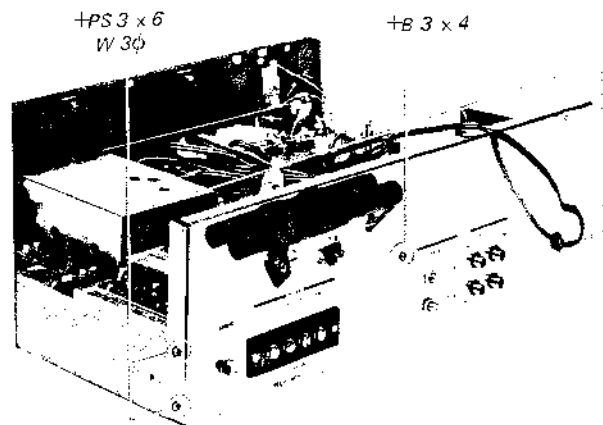

Fig. 2-5 Rear panel removal
- Remove the two screws (+PS 3 X 6) at each side of the rear panel and one screw (+B 3 X 4) as shown in Fig. 2-5.